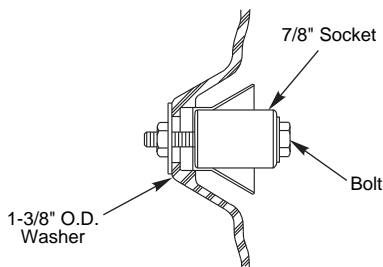

Figure 7
- C. Pull inset into cavity (see Figure 7).